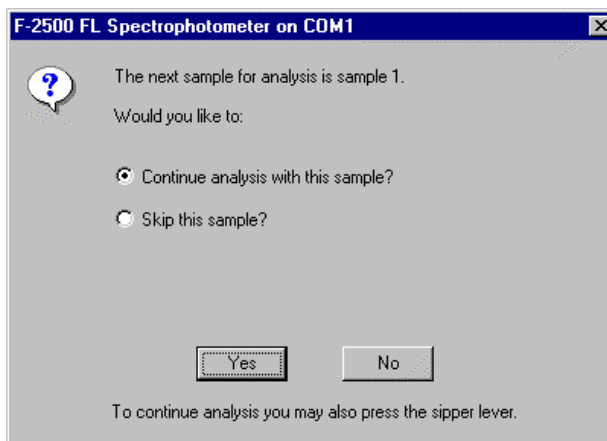

Fig. 2-10
- (2) Upon clicking the  button, the window shown in Fig. 2-10 appears when using a sample table. Now click **Yes**.